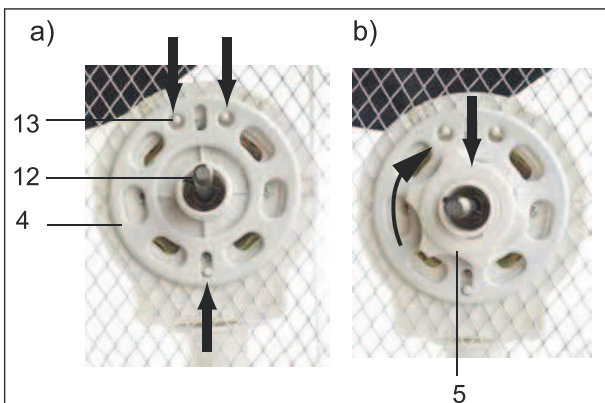

Fig.14: Mounting of rear guard grille
4. Slide the rear guard grille (4) onto the axle (12) and the centering pins (13) of the engine block. See Fig. 14 a).
5. Slide the hexagon nut (5) onto the axle in front of the rear guard grille and tighten clockwise. See Fig. 14 b).